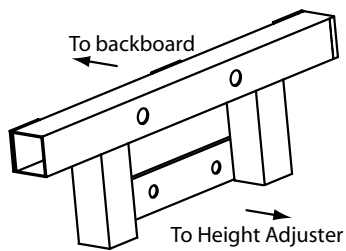

Figure 6
- ① Locate 42" Glass Bank Spacer Assembly (see Fig. 6). Only 42" Glass Backboards require this unique spacer between the board and the Height Adjuster.
- ② Attach the 42" Glass Bank Spacer to the Backboard using the bottom holes. Backboard with spacer then attaches to Height Adjuster through top holes when goal is bolted in place.